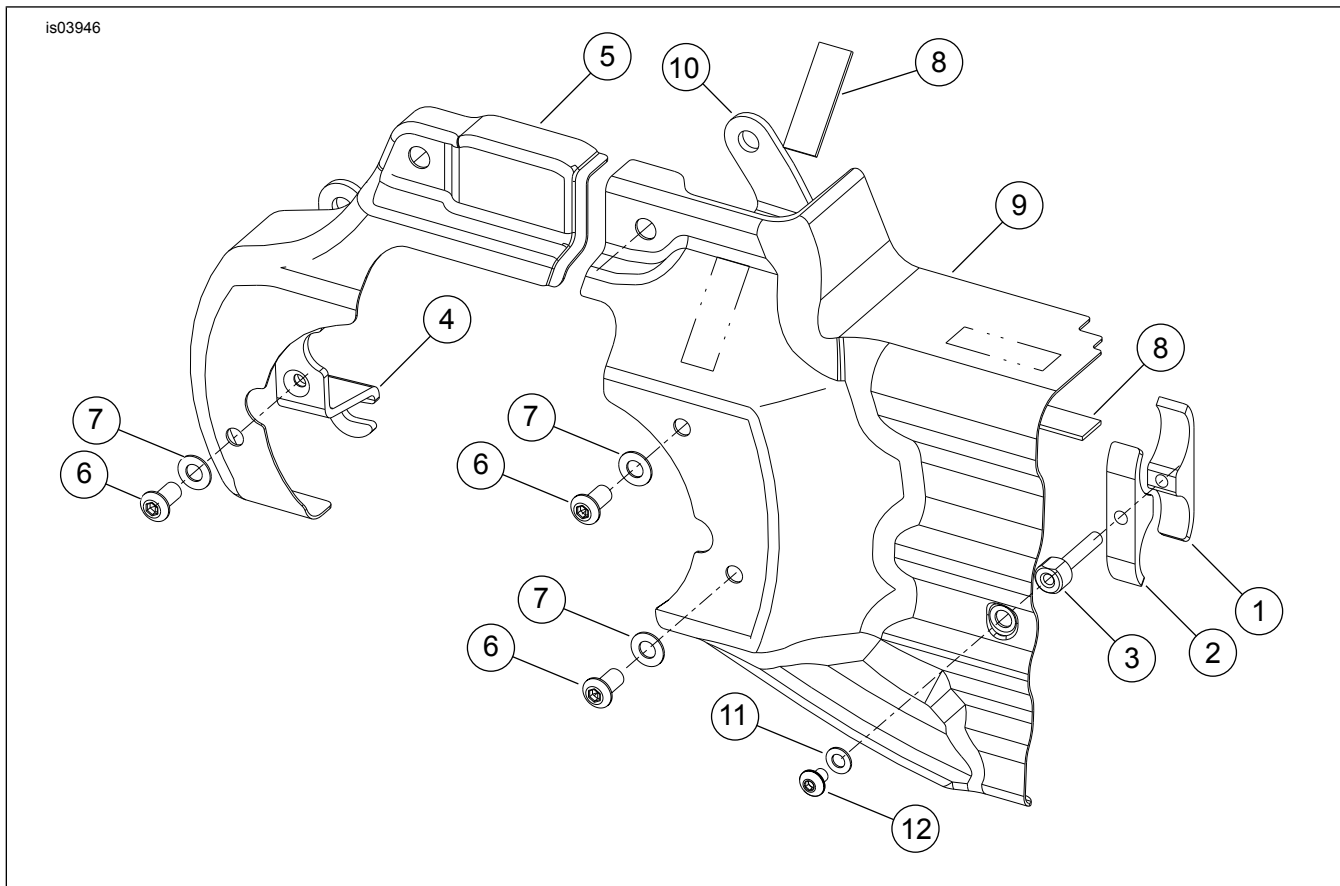

Figure 3. Engine/Transmission Interface Cover
See Figure 3 and Table 1.
3. See Figure 1, Figure 3 and Table 1. Apply a small amount of Loctite 243 (Blue) to threads of removed and loosened screws from Step 2. Install rear bracket (4) to transmission bearing housing loosely with screw (A). Swing hook of bracket to screw (B) and secure in place. Tighten screws to 17.6–24.4 N·m (13–18 ft-lbs).
5. See Figure 1, Figure 3 and Table 1. Install front bracket (10) to transmission bearing housing with screws (C) and (D) and fasten finger tight. Tighten screw (D) to 17.6–24.4 N·m (13–18 ft-lbs). Remove and retain screw (C) for later use.
6. See Figure 2 and Figure 3. Position inner bracket clamp (1) behind and on the cylindrical part of the oil connections at the engine crankcase as shown.
7. Position the outer bracket clamp (2) in line with the inner bracket clamp (1) and secure the two clamps together with the bracket clamp screw (3). Tighten the screw to 9–11 N·m (80–100 in-lbs).
9. See Figure 3. Apply Loctite 243 (Blue) to screw (Item E, Figure 1) removed in previous step and loosely mount rear interface cover (5) to transmission bearing housing. Apply a small amount of Loctite 243 (Blue) to screw (6), then install screw and washer (7) and attach cover to rear bracket (4).
11. See Figure 3. Apply a small amount of Loctite 243 (Blue) to two screws (6), then install the two screws and two washers (7) to the front interface cover and front interface cover bracket clamp assembly.
12. Apply a small amount of Loctite 243 (Blue) to screw (12), then install screw and washer (11) through front interface cover to engage the bracket clamp screw (3).
13. See Figure 1 and Figure 3. Align covers as necessary and tighten screws (E) and (C) to 17.6–24.4 N·m (13–18 ft-lbs). Tighten all three screws (6) to 9–11 N·m (80–100 in-lbs). Tighten screw (12) to 4.5–5.6 N·m (40–50 in-lbs).